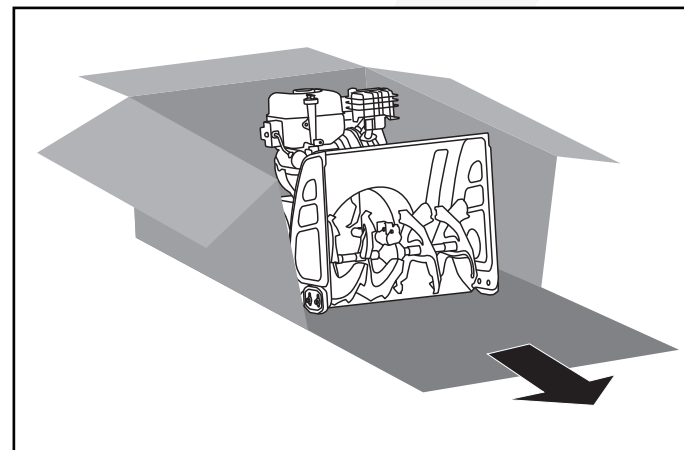

Fig. 1
4. Pull the snow blower out of the box. (Fig. 1)